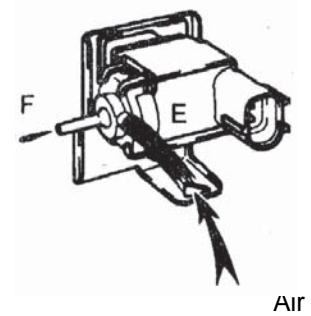

Figure 114
(3) Check VSV operation from hole E to F and that the air flow should be difficult. See (Figure 114).